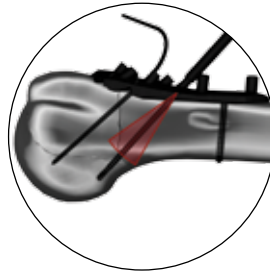

Figure 34
- ⓘ **Important:** Drill cautiously to avoid perforation through the far cortex. Using fluoroscopic guidance, advance drill until resistance is felt from subchondral bone (Figure 34).